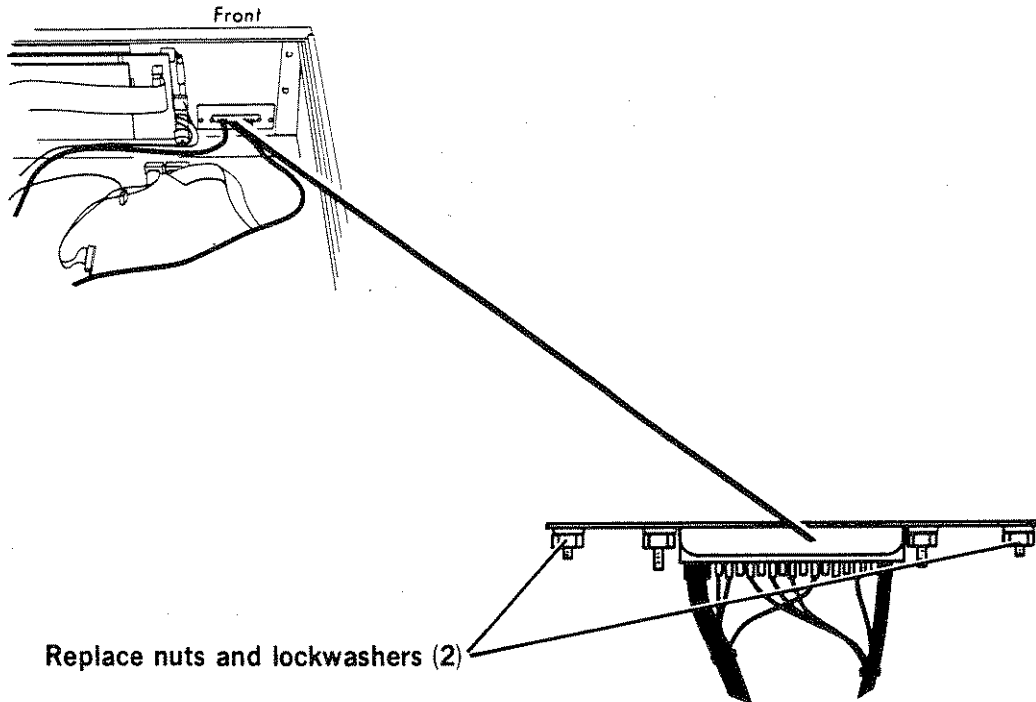

Figure 7-22. Attaching the Test Connector to the Front Location
STEP 6. Bolt the Test connector in place in the front of the instrument. Refer to Figure 7-22. Be careful to follow the cable routing shown in the figure.